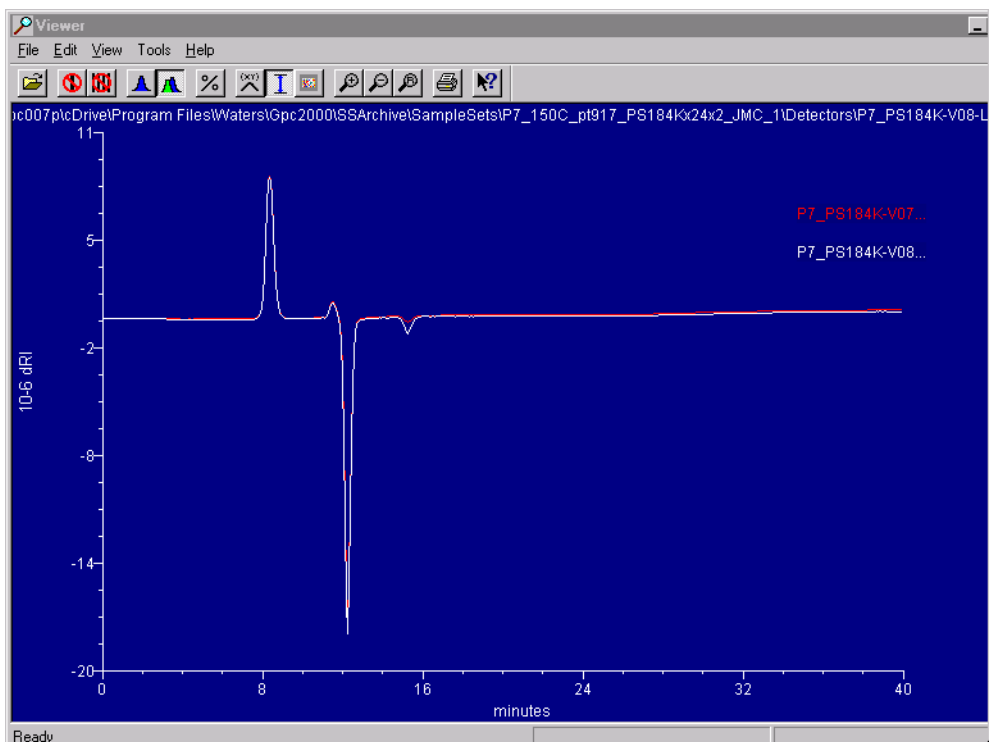

Figure 1-21 Viewer Window with Two Data Channels
Viewer	Displays Analytical Instruments Association (AIA) files as graphs in a separate window (Figure 1-21).
1. Select Tools > Viewer to open the Viewer window (Figure 1-21).